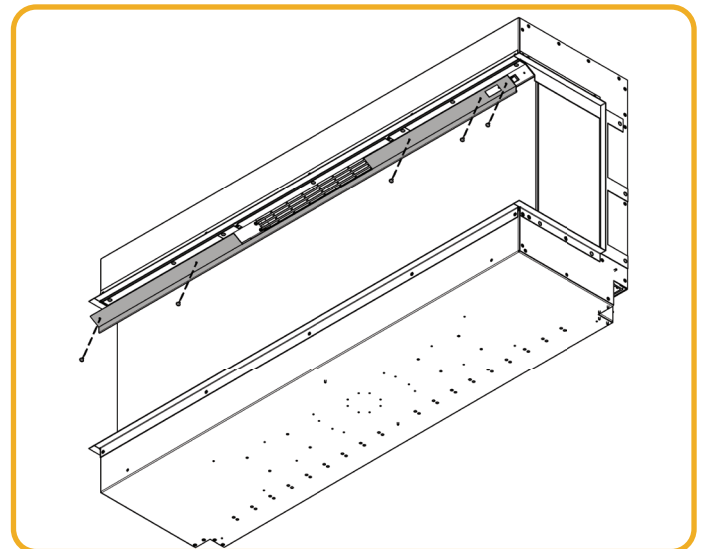

Figure.9.4 | Screw on the top retainer bracket
- Place the topside glass retainer bracket and add the screws to close of the fireplace. See Figure 9.4.